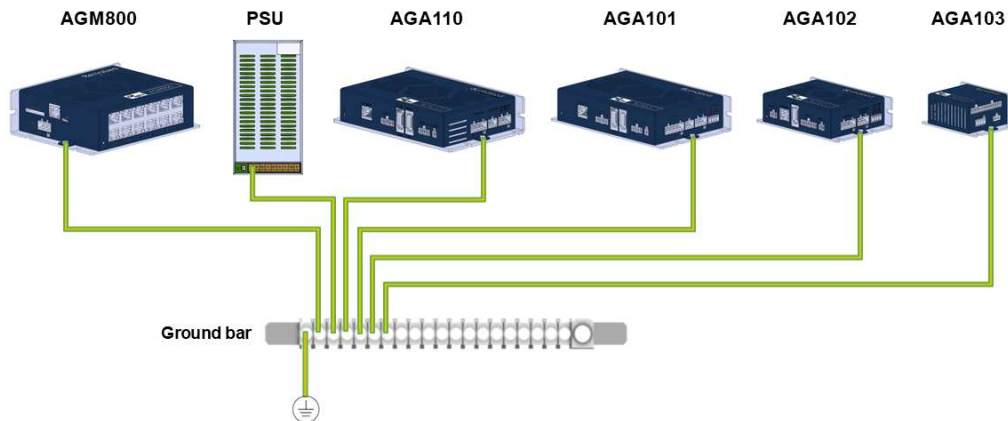

Figure 11. System Grounding
- The AGA1xx must be connected to protective earth (PE) and connected to the building's ground. PE is protected with an earth-leakage circuit breaker (ELCB); hence it is safe to touch. Refer to Figure 11.